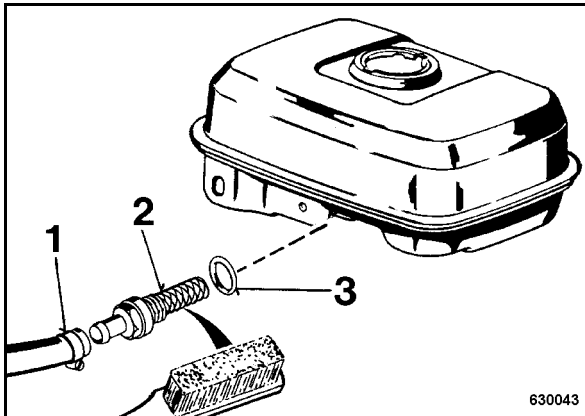

Fig. 67
- Open the hose clamp (1) (Fig. 67) and pull off the hose.
- Unscrew fuel screen (2).
- Check the seal (3), replace if necessary.